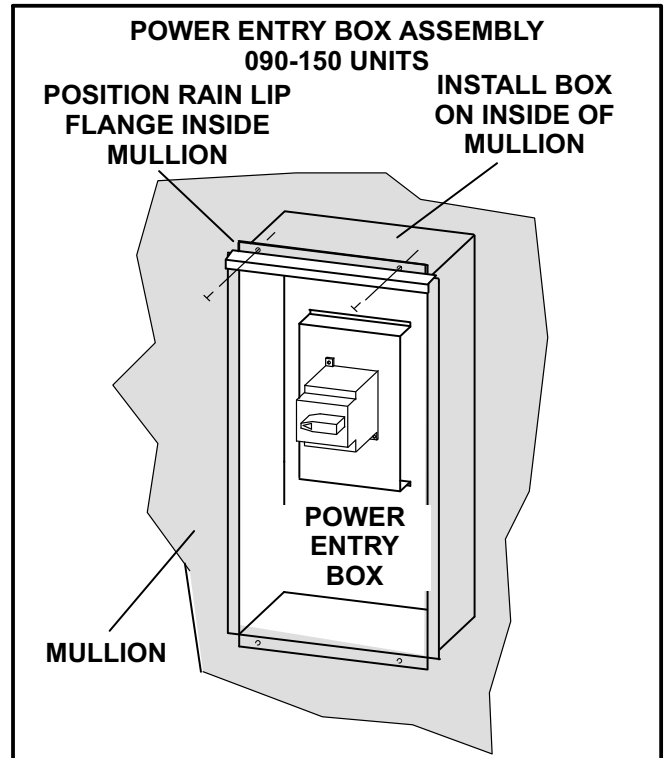

FIGURE 2
- 3- Align the power entry box, rain lip, and mullion engaging holes as shown in figure 2 and 3. Place the rain lip flange between the power entry box and the mullion. Secure with screws provided in kit.